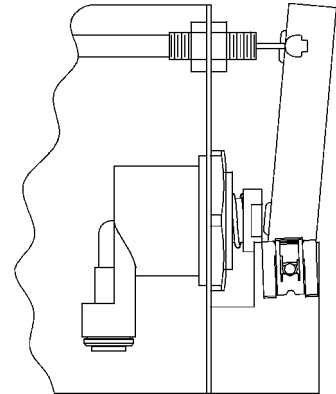

FIG. 4
3. Remove cable free play by adjusting the jam nuts on the ends of the operating cable. See Figure 4